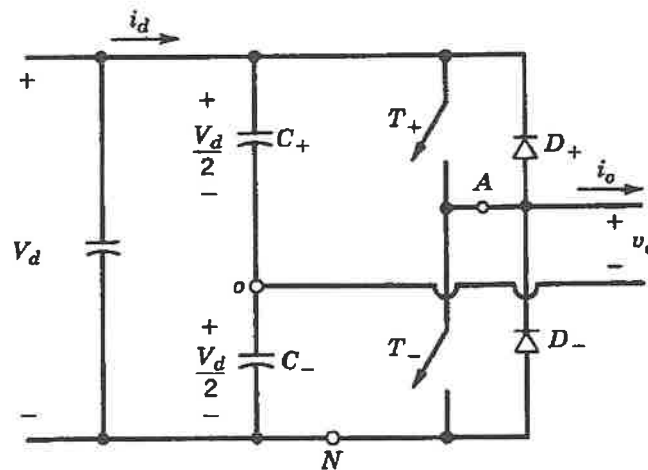

Figure 4.1: Inverter circuit.
- Q4 a) An inverter circuit is shown in Figure 4.1.